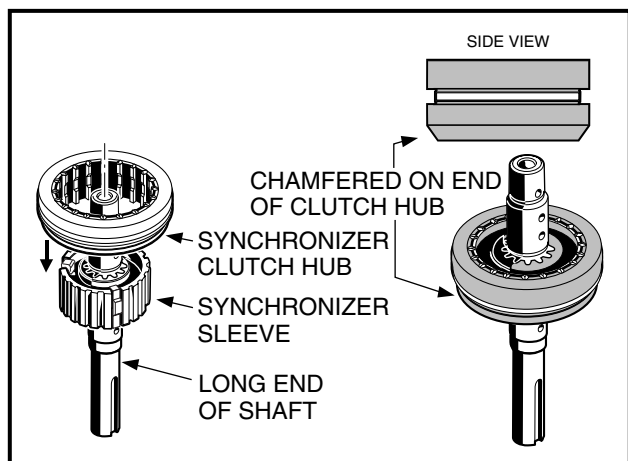

Figure 7-31 Synchronizer Clutch Hub
- 1.4. Install the synchronizer clutch hub (52) (**Figure 7-16, Page 7-9**) onto the synchronizer sleeve. Make sure the chamfered end of the hub is oriented toward the long end of the input shaft (**Figure 7-31, Page 7-18**).
- 1.10. On the other end of the input shaft (54), install one thrust washer (44), and the synchronizer ring (48) (**Figure 7-16, Page 7-9**). The smooth collar of the synchronizer ring should be oriented toward the clutch hub, and the notches in it should mate with the synchronizer inserts as shown (**Figure 7-31, Page 7-18**).
- 2.4. Install the synchronizer clutch hub (52) (**Figure 7-17, Page 7-10**) onto the synchronizer sleeve. Make sure the chamfered end of the hub is oriented toward the long end of the input shaft (**Figure 7-31, Page 7-18**).
- 2.11. On the other end of the input shaft (84), install one thrust washer (44), and the synchronizer ring (48) (**Figure 7-17, Page 7-10**). The smooth collar of the synchronizer ring should be oriented toward the clutch hub, and the notches in it should mate with the synchronizer inserts as shown (**Figure 7-31, Page 7-18**).